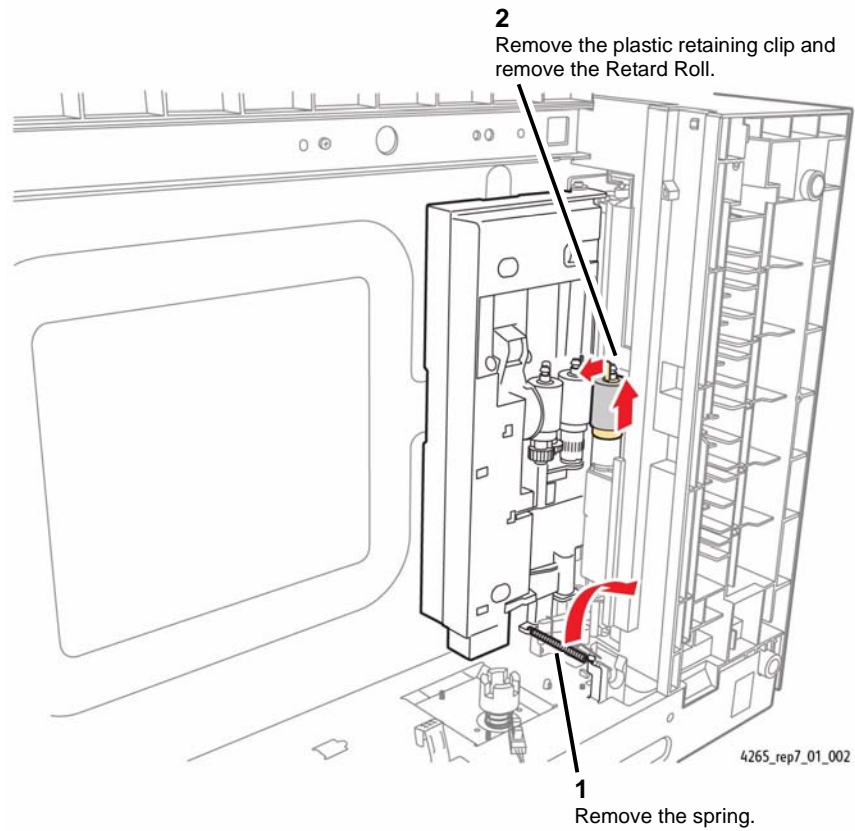

Figure 2 Removing the Feed Head Spring and Retard Roll
11. Remove the Feed Head spring and retard roll (Figure 2).